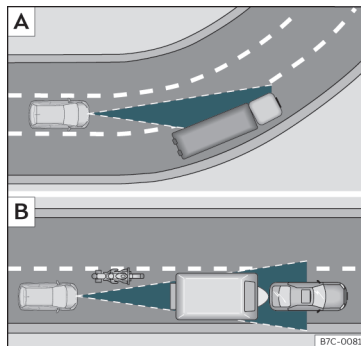

Fig. 164 [A] Vehicle on a bend. [B] Motorcyclist ahead, out of range of the radar sensor.
The ACC may not detect the vehicle in front on a curve, or may regulate the distance from vehicles in other lanes >>> **Fig. 164** [A].
- Vehicles that are not aligned while driving or that are outside the sensor's detection area, such as motorcycles >>> **Fig. 164** [B].